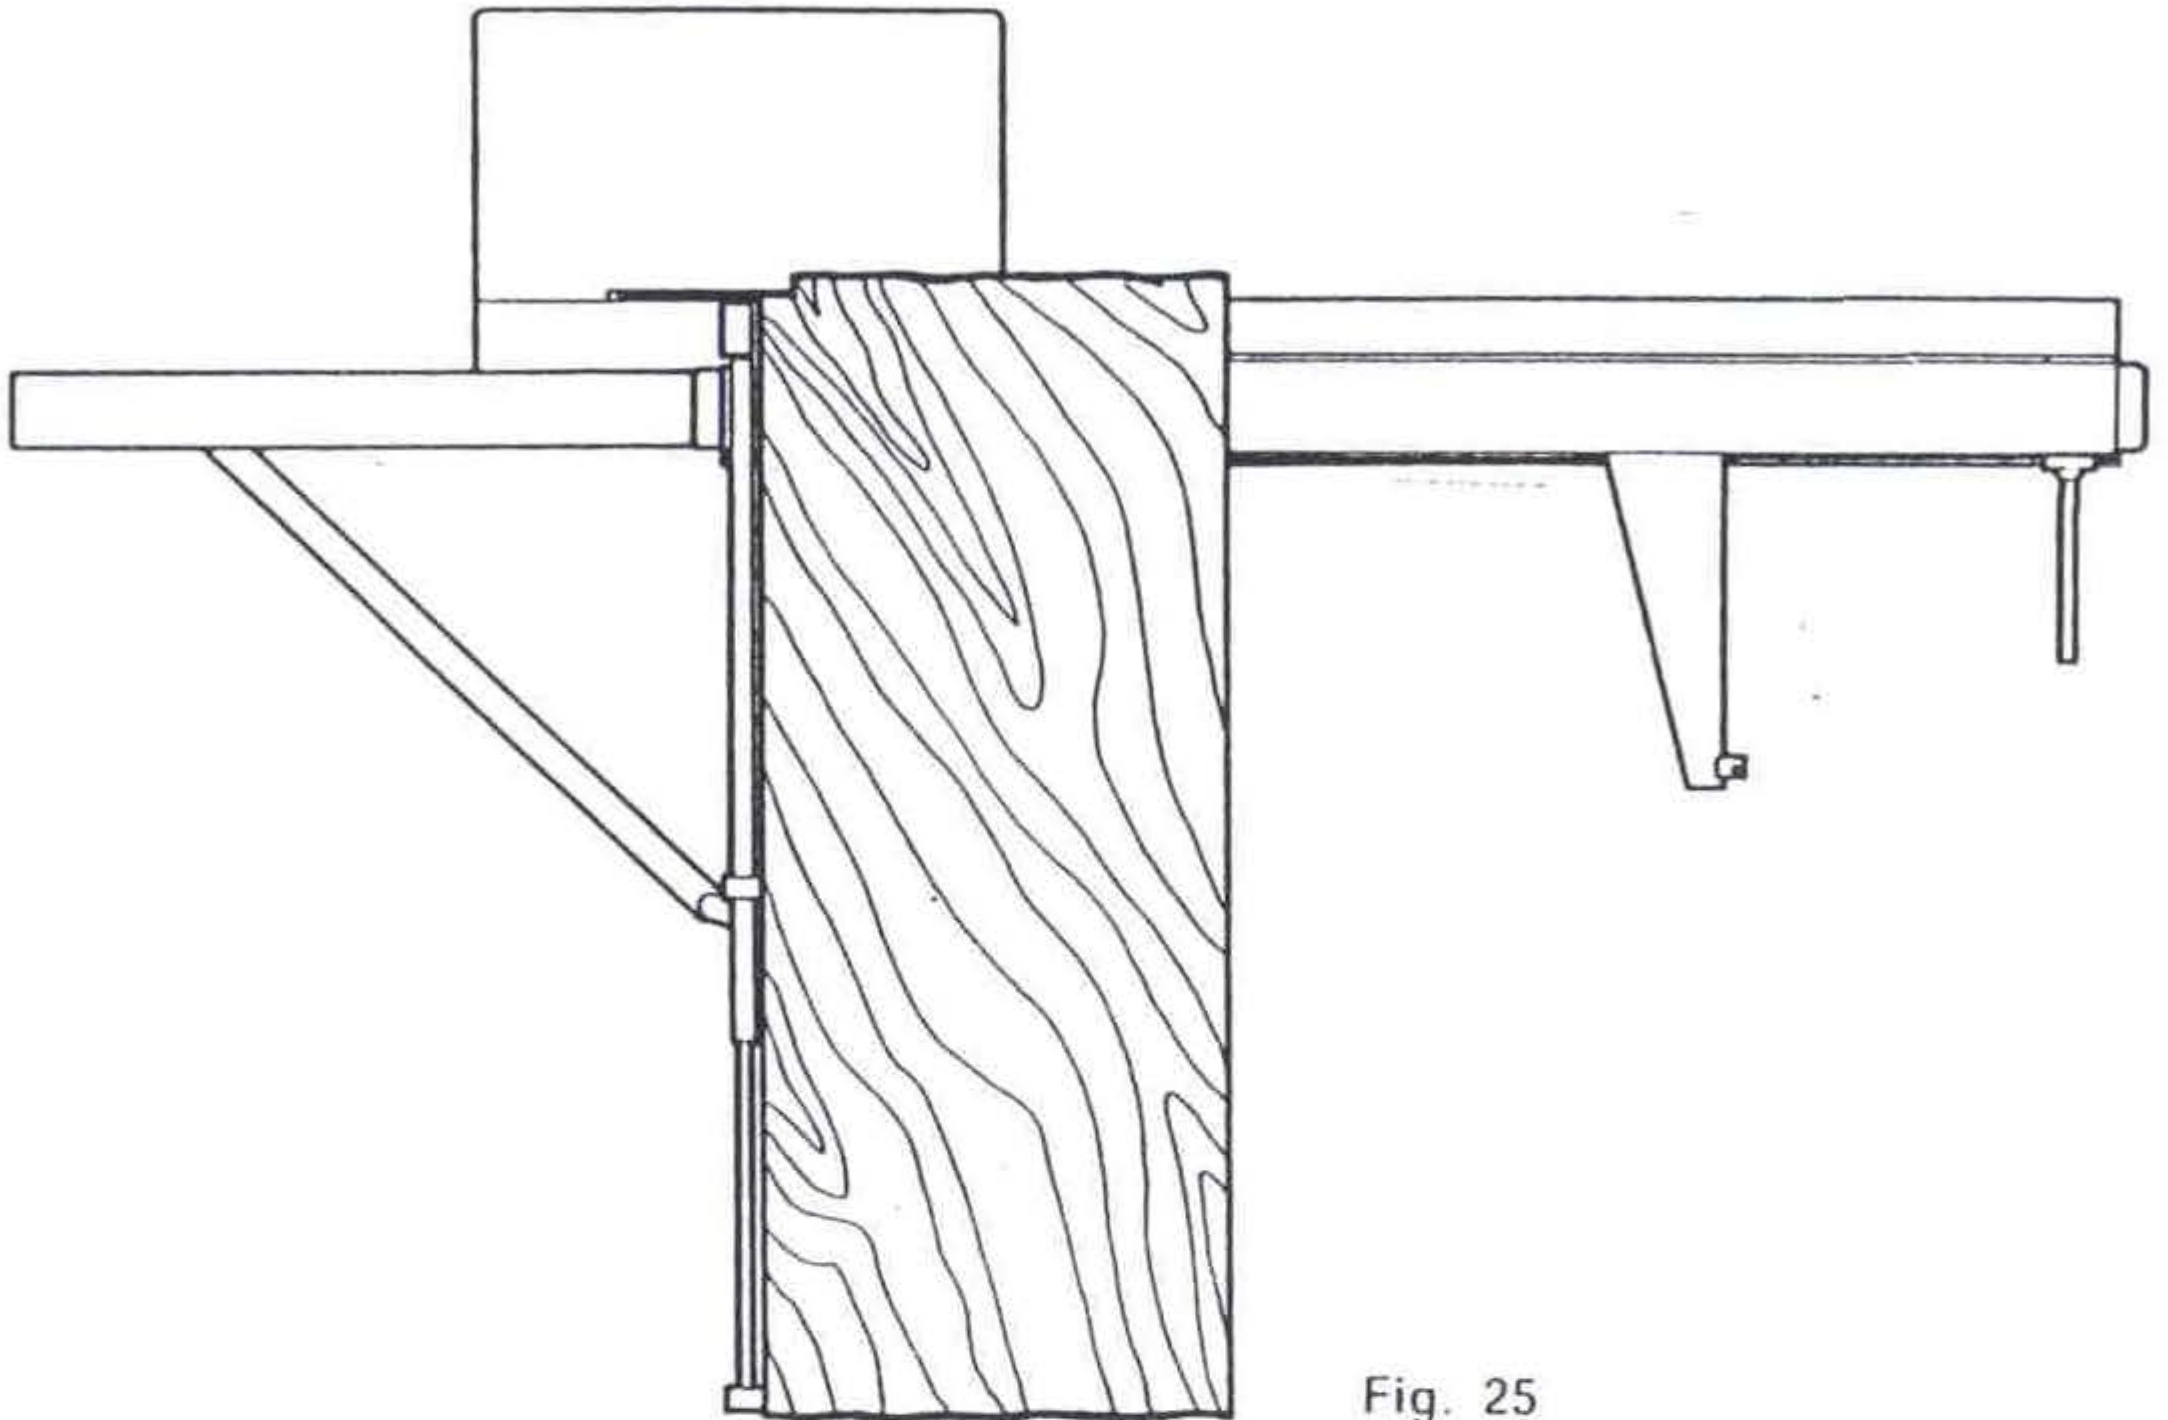

Fig. 25
- Now, by leaning the workpiece against the aluminium fence, execute a first trimming, making the stop pawl withdraw (fig. 25)